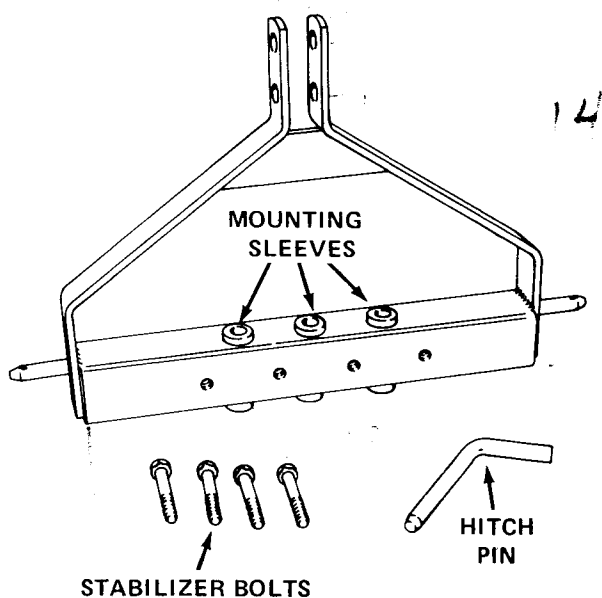

FIGURE 2
1. Four implement stabilizing bolts (Figure 2) are furnished with the sleeve adaptor for use at the four threaded holes. Use these bolts to prevent excessive movement of the attachment. A plow should not be stabilized at this point.
2. There are three mounting sleeves (Figure 2) on the sleeve adaptor to permit centering or offsetting implements. When mounting a plow, be careful to select the mounting position which will allow the share to cut cleanly to the edge of the previous furrow and to the inside of the right rear wheel.